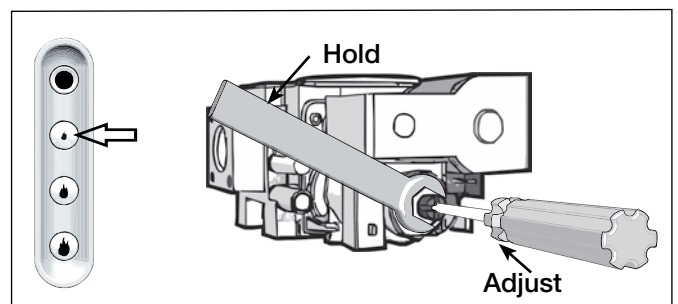

FIG 21
- Switch the control buttons to 'Low flame' position. Retain spanner in position and using a screwdriver adjust the central screw control to give a low pressure reading (refer to spec table on page 8). **(Turn clockwise to increase pressure and anticlockwise to decrease pressure)**. Refer **FIG 21**.